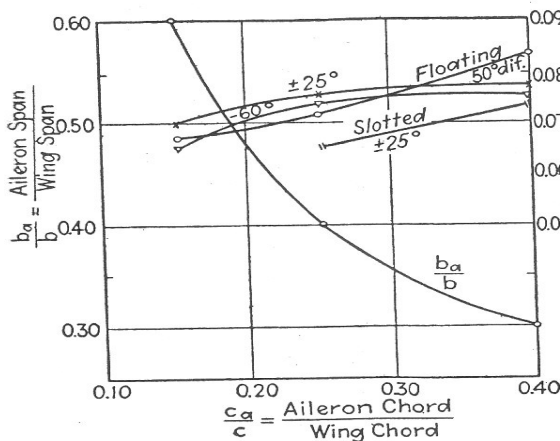

FIG. 156.—Proportions of test ailerons and mean rolling moment coefficients below stall.
Test data from NACA Repts. 419 and 422 on items 1 and 4, above, are given in Figs. 156 and 157. The proportions of the test ailerons were intended to give approximately the same rolling moment coefficient below the stall, and the test results show that the proportions are approximately correct. The data